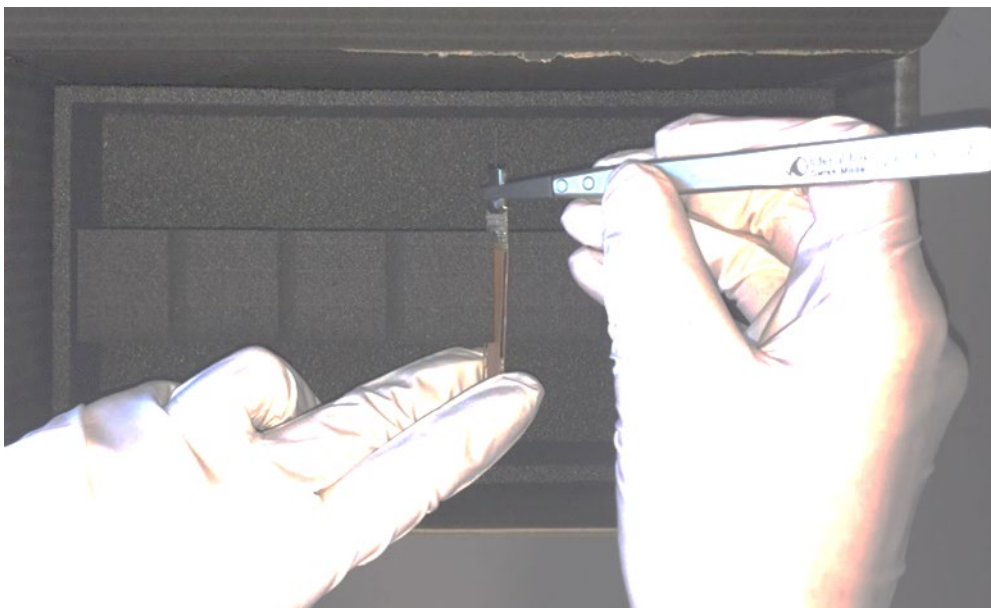

Figure 40: Removing the probe from the shipping box (foam with diagonal slits)
- Hold the ZIF end of the flex with your other hand and keep it straight. Slightly wiggle the base of the probe upwards while pulling the flex along with it. Like this, the flex can smoothly slide out of its slot without getting stuck (Figure 40).